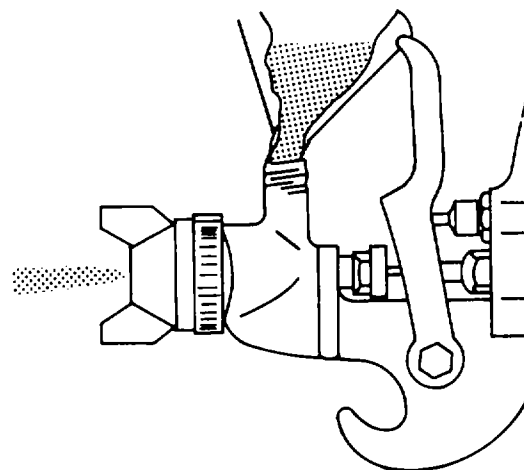

Figure 5-8. Flushing Paint Gun with Thinner or Solvent (Pressure Tank or Gravity Bucket)
- (2) Paint gun with pressure tank or gravity bucket. When the gun is used with a pressure tank or a gravity bucket, proceed as follows (see figure 5-8):